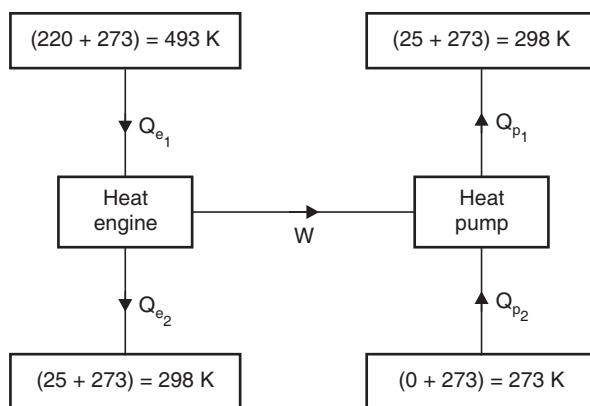

Fig. 3.16
**Solution.** (i) Fig. 3.16 shows the arrangement of the system.